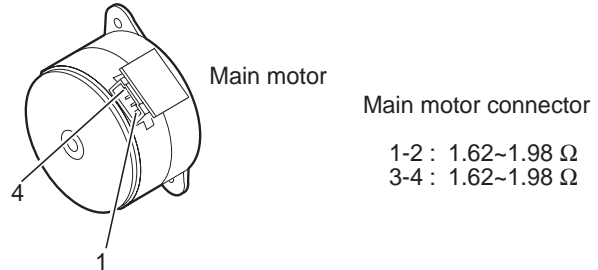

Figure 3-4 Main Motor Connector
- (1) Check the voltage (+12 V) at both terminals of C501 located on the MCNT board.
- (2) Check the main motor's resistance. 1.62 ~ 1.98 Ω /1 phase is normal. (Fig. 3-4)
- (3) Replace the main motor.
- (4) Replace the SCNT board.
- (5) Replace the MCNT board.